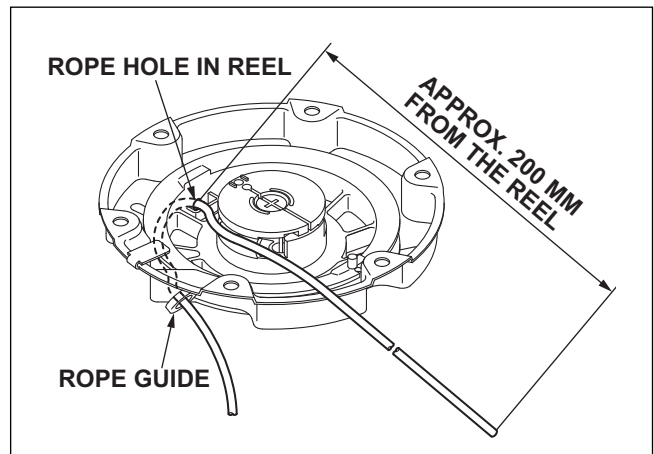

Fig. 14-7
(4) Tension the reel spring
-2 Fix the reel so that the rope hole in the reel is aligned with the rope guide. (Fig. 14-7)
(Fig. 14-7)